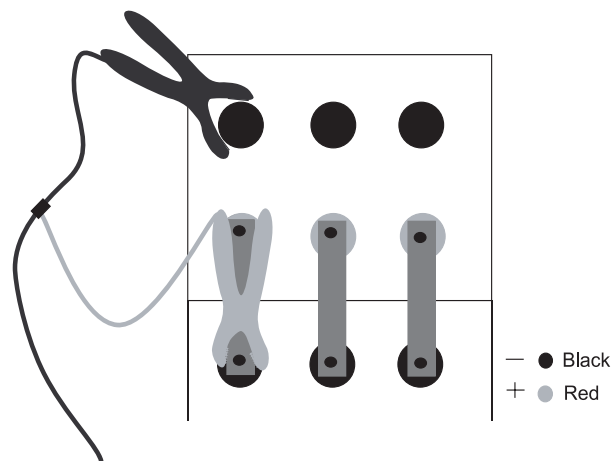

Figure 6. Attaching the cable to a strap
2. Attach the red clamp or probe at the end of the strap above the black (–) terminal on the next jar. Refer to *Figure 6*.